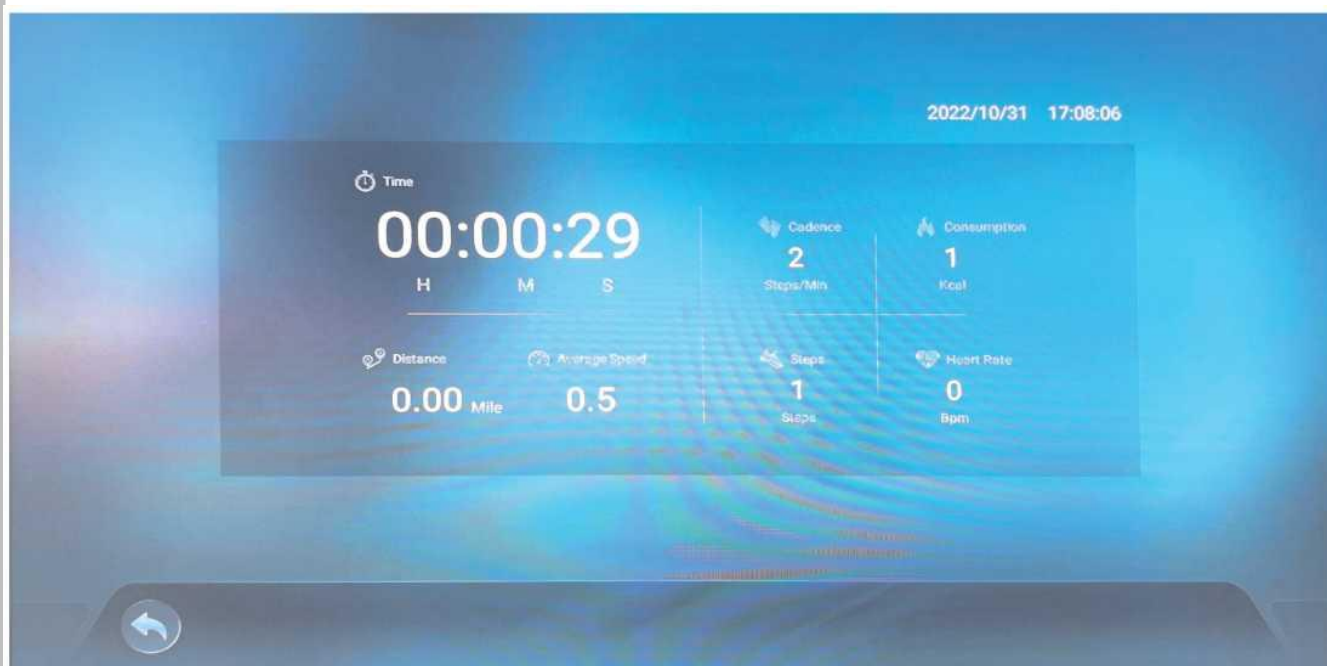

FIG. 12 Motion Results Page
- 8) Exercise results - automatically pop up after exercise. The results include exercise time, distance, calorie consumption, average speed, gait frequency, steps, average heart rate, segmental pace and other data, as shown in FIG. 12